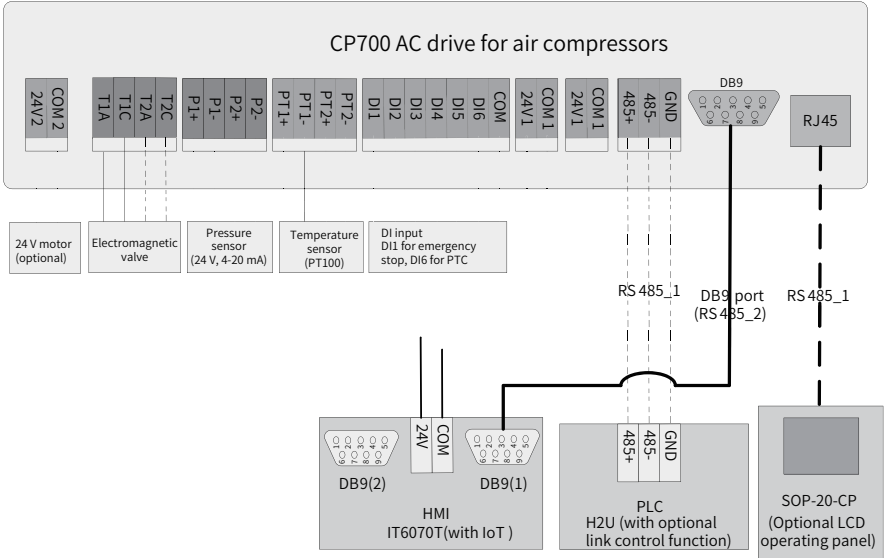

Figure 2-16 Control terminal wiring for three-phase 380 V 18.5-200 kW models and three-phase 220 V 11-45 kW models
- ◆ In figure 2-16, the electromagnetic valve output of the CP700-2T11-H to CP700-2T45-H, CP700-4T18.5-H-INT to CP700-4T37-H-INT, and CP700-4T110-H and CP700-4T200-H models is 220 VAC, and the electromagnetic valve output of the CP700-4T45-H1-INT to CP700-4T90-H1-INT models is 24 VDC.